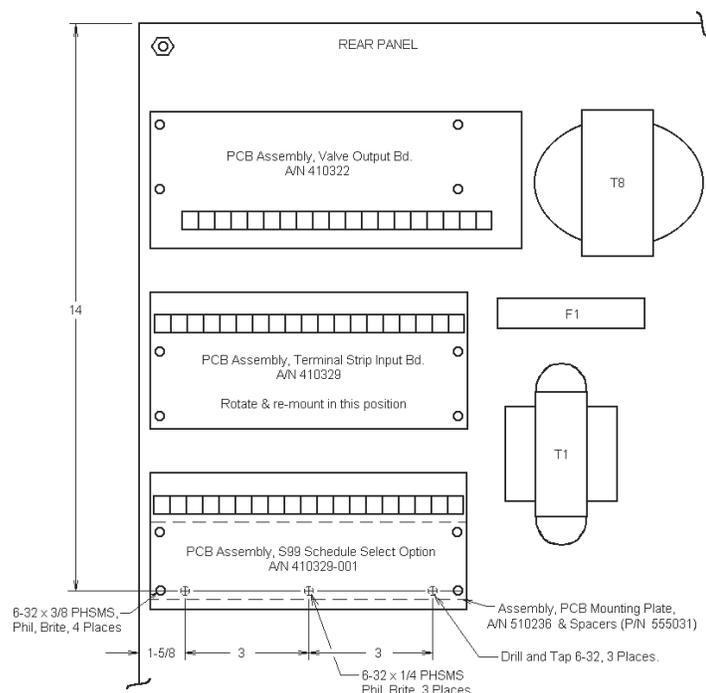

Figure C1. Mounting detail for “L”, “H”, “G”, or “U” Cabinet
3. Remove four (4) screws holding Terminal Strip Input Board (A/N 410329) to its mounting bracket. Rotate Board 180° (so terminal strip is at the top), plug J4A-J4A-J4A-J4A harness into its jack and route harness **under** PCB and re-mount Board using same four (4) screws.
4. Drill and tap rear panel per Figure C1, be sure to vacuum or otherwise remove ALL metal chips before assembling PCB Mounting Plate (A/N 510236) to rear panel using three (3) 6-32 x 1/4 PHSMS, Phil., Brite. Add extra spacer (P/N 555031) to each existing spacer (4 places) to offset PCB 1" from panel.
5. Mount S99 Option PCB (A/N 410329-001) to Mounting Plate (A/N 510236) using four (4) #6-32 x 3/8 PHSMS, Phil., Brite (see Figure C1).